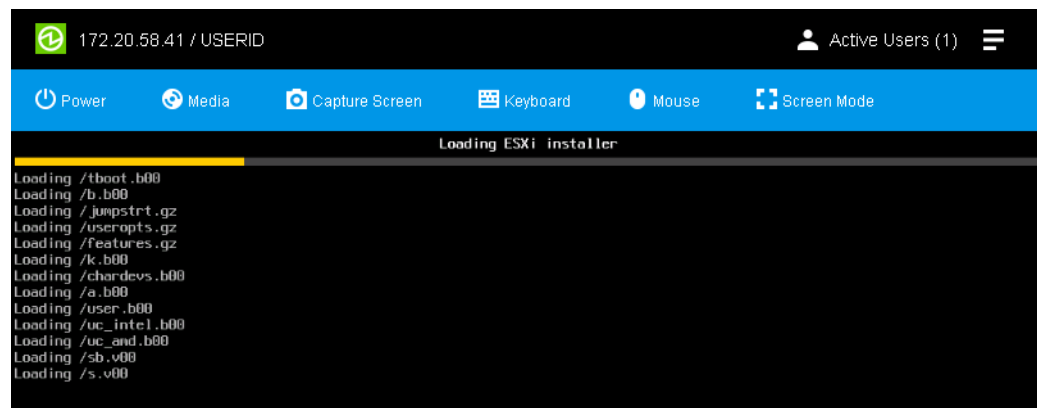

Figure 6-65 ESXi installer
10. Click **Next** to start the installation. The installation will begin as shown in Figure 6-65.